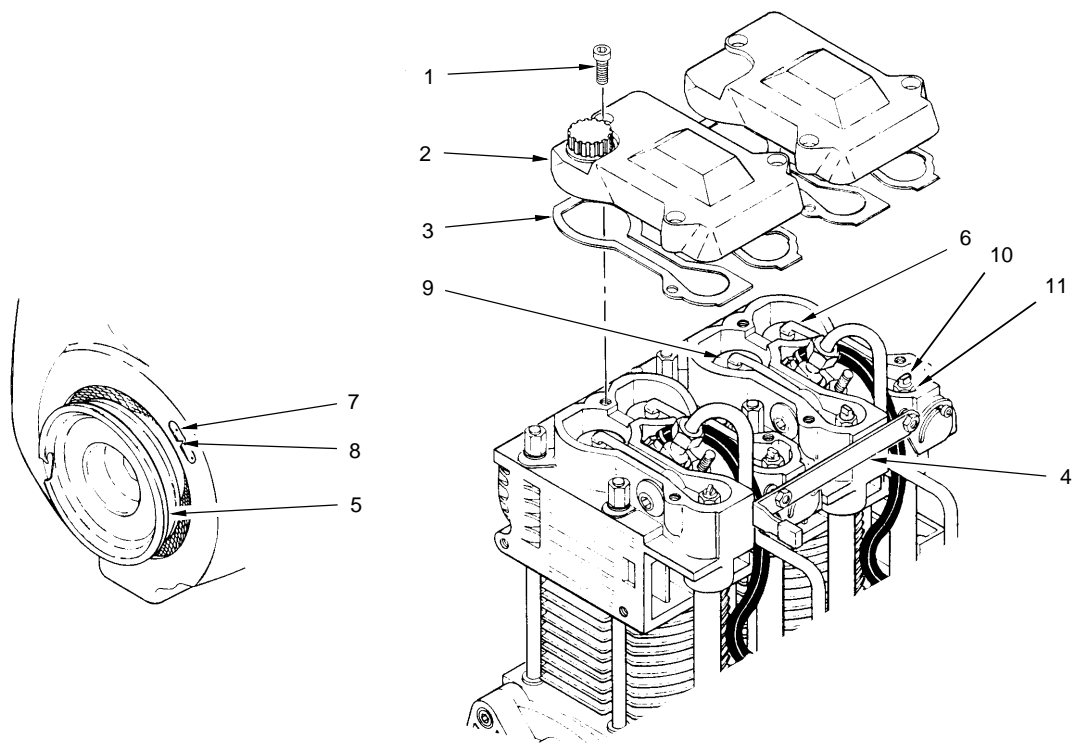

Figure 35. Valve Adjustment
4. Set cylinder of injection pump (10) being timed to TDC on the compression stroke. Turn flywheel until intake valve (11) opens. Rotate flywheel to the right until intake valve (11) closes. Continue turning flywheel until timing mark (12) on flywheel is aligned with indicator (13) on shroud.
5. Remove fuel feed line (14) from injection pump (10) and fuel injector (15) being timed.
6. Install injector pump adjustment tool (16) on pump being timed.
8. At this point fuel would be going in the injector nozzle. Check timing mark (12) and indicator (13) on the shroud to see that they are aligned.
11. Remove rubber band from control rod (8) and engine.
**ADJUST ENGINE INTAKE AND EXHAUST VALVES** (Refer to Figure 35.)